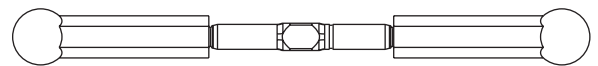

Figure 17B
- 1. Thread a Plastic Rod End (45) onto each End of a 1-7/8" Turnbuckle (72). Tighten both Rod Ends equally until the Rod is the same length as the Rod in Figure 17B. Make two of these Tierod assemblies.
- 1. Place a "Foam thing" (47) over the Ball Studs (10) in each of the Spindle (28), (29). Snap one end of a steering Tierod assembly (Figure 17B) to the Ball Stud (11) in the steering Servo Saver Bottom (1). Snap the other end to the Ball Stud (10) in the left Spindle (28).